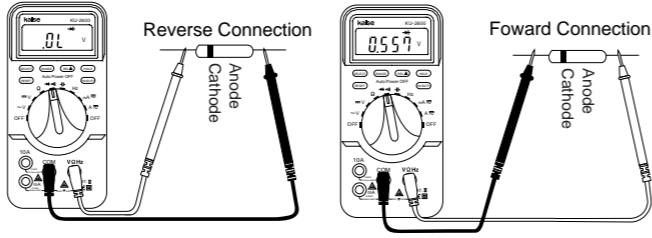

fig.5
- Connect Black Test Prod to Anode and Red Test Prod to Cathode of the diode being measured. This is Reverse Connection. Confirm that the LCD displays OL symbol. Refer to the figure 5.